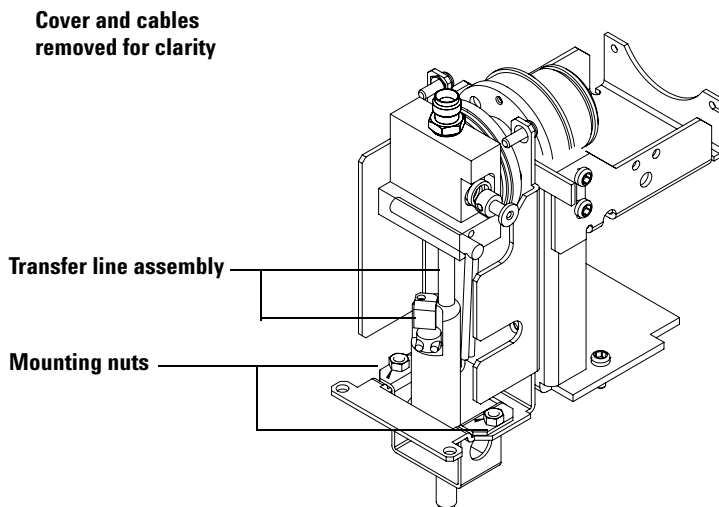

Figure 41 Left side of the detector
Occasionally, the inert transfer line between the column and the emissions block must be inspected, cleaned, and/or replaced. Figure 41 shows an installed inert transfer line.
- 7 Remove the two mounting nuts that hold the transfer line assembly (Figure 41).